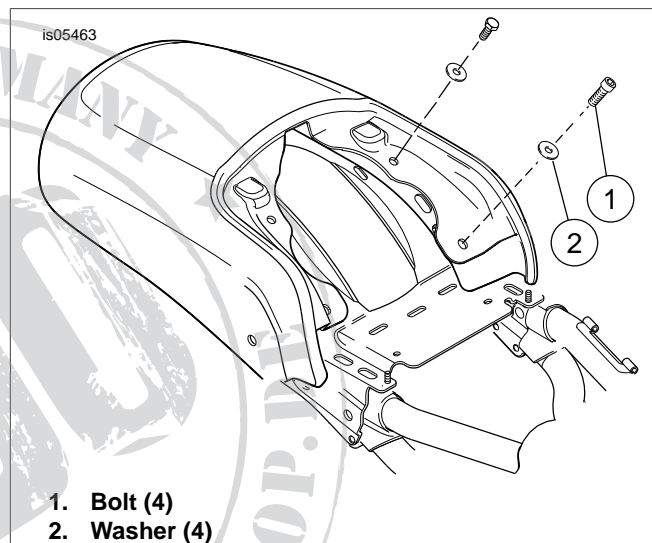

Figure 1. Fender Mounting Bolts
1. See Figure 1. Remove four rear fender mounting bolts (1) and washers (2). If necessary, move the ECM to access the four fender mounting bolts.
6. See Figure 1. Install four fender mounting bolts (1) and washers (2). Tighten to 20-26 Nm (15-19 ft-lb).